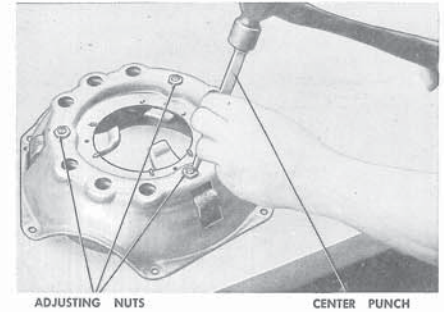

Fig. 28. Locking Release Lever Adjusting Nuts
**Assemble Clutch Cover.** Make certain anti-rattle springs are fastened to clutch cover and that release levers are installed correctly. Place pressure springs on pressure plate bosses arranged as shown in Figure 27. Position cover on springs so that punch marks on lever lug and cover are aligned. Place cover assembly in arbor press with pressure plate positioned squarely on a block and with a wood block or bar across cover (Figure 25). Be sure that clutch cover eyebolt holes are clear. Compress cover slowly, keeping lever lugs and eyebolts aligned with their respective openings in the clutch cover. Install eyebolt nuts and tighten until they are flush with tops of eyebolts. Release press. Remove clutch cover assembly from press and adjust release levers. After levers are adjusted, punch nuts to lock them in place (Figure 28).